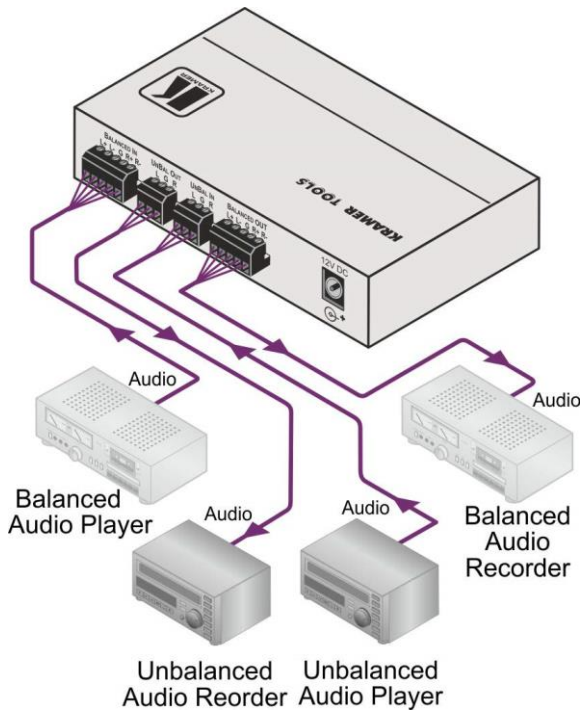

Figure 2: Connecting the 482xl Bidirectional Audio Transcoder
| Figure 2: | Connecting the 482xl Bidirectional Audio Transcoder | 7 |
To convert the audio input signals at the UNBAL IN (to the balanced audio output) and the BALANCED IN (to the unbalanced audio output) connectors, as the example illustrated in Figure 2 shows, do the following:
5. Connect the 12V DC power adapter to the power socket and connect the adapter to the mains electricity (not shown in Figure 2).